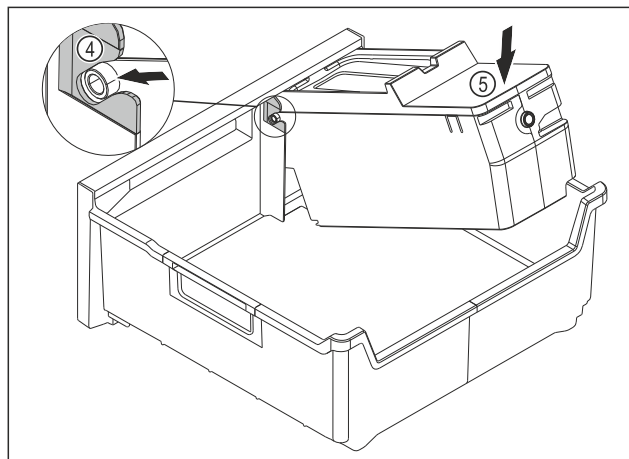

Fig. 92
- ▶ Installing the EasyTwist-Ice body: Push the axes for the EasyTwist-Ice body into the guides Fig. 92 (4).
- ▶ Press the EasyTwist-Ice body Fig. 92 (5) down at the back.